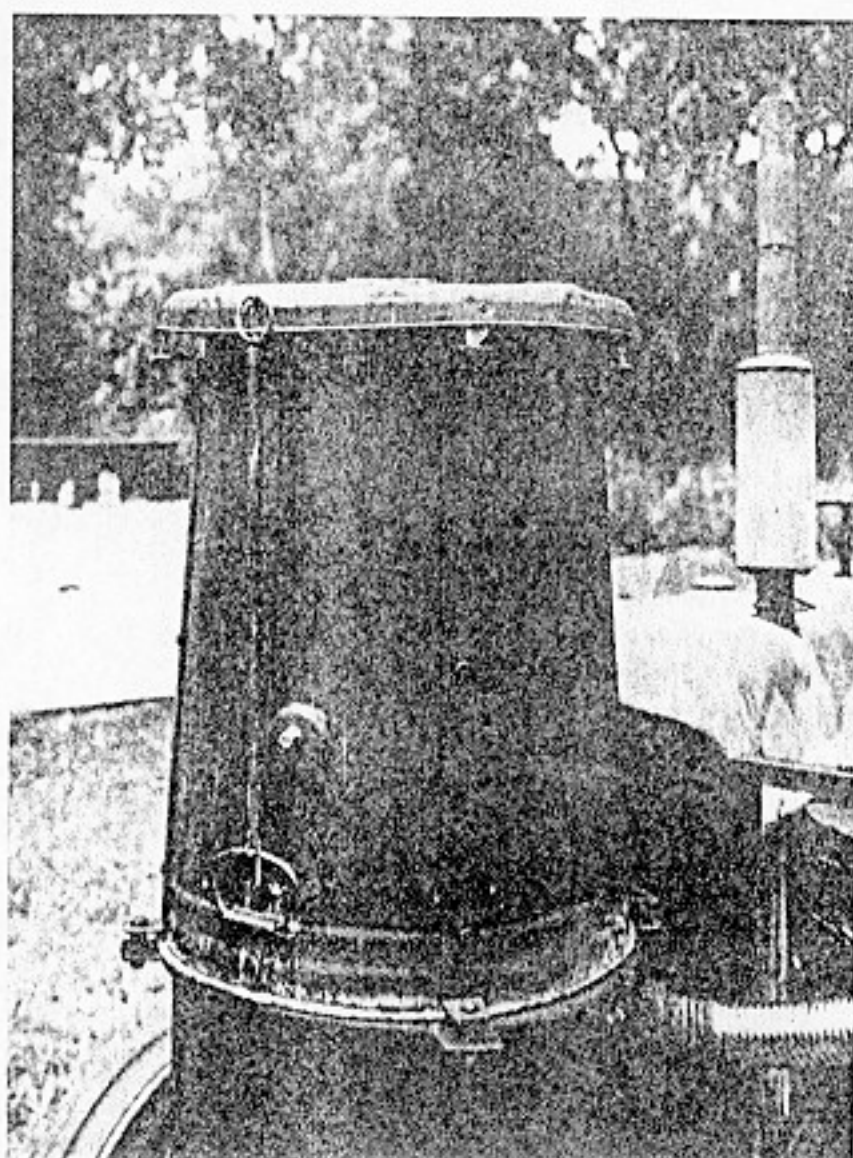

Fig. 2-13. Operating configuration of the fuel hopper and its cover.
17. Cut four metal triangular standoffs (Item 21A) and braze, weld, or rivet them flat against the edge of the garbage can lid (Item 16A) as shown in Fig. 2-12; they must be aligned with the four support bars (Item 19A) attached to the fuel hopper. During operation, the garbage can lid must have a minimum 3/4-in. opening for air passage; the standoffs should provide this clearance when they are engaged into the holes in the top edges of the support bars (Item 19A); see Fig. 2-13.
23. The lock ring will then clamp the gasifier unit housing drum (Item 3A) and the top plate (Item 2A) together. The fuel hopper support bars (Item 19A) must be attached to the tabs (Item 25A) on the lock ring with bolts (Item 26A). High temperature silicone (Item 27A) should be applied to all edges to make an airtight connection. The lock ring connections are shown in the lower portion of Fig. 2-13.